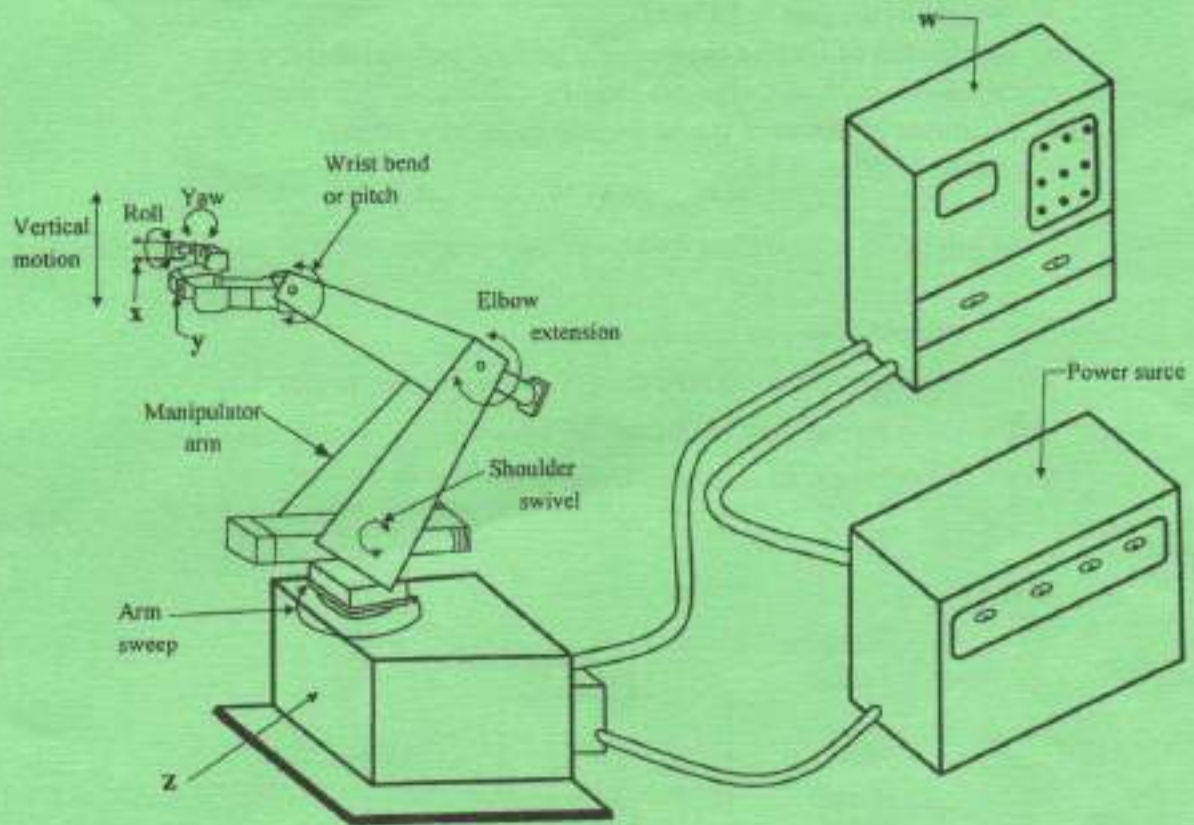

Fig. 4
- (b) Figure 4 shows a diagram of a robot arm. Identify the parts labelled W, X, Y and Z. (4 marks)